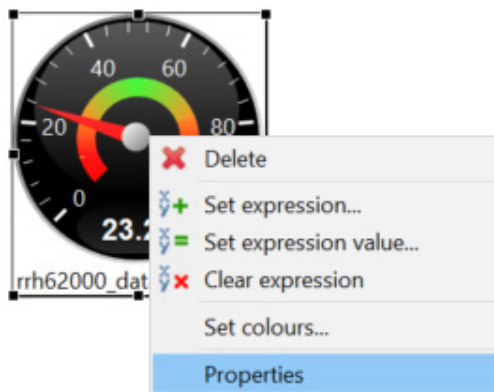

Figure 24. Gauge Properties
- 9. Right-click on the GAUGE and select **Properties** (see Figure 24).